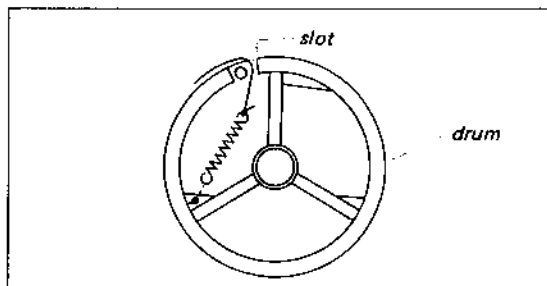

Fig. 2-6. Coil spring installation
1. Hook the spring to one hole of the drive drum as shown in Fig. 2-6, and then squeeze it.